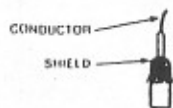

Figure 13
3. If your TV set is connected to an outside antenna, try connecting the FM receiver to the same antenna, using a signal-splitting device designed for this purpose. (Before connecting to an apartment master antenna or community cable system, determine if FM reception is included with the cable signal) See Figure 13.
For best results, connections for external antennas should be made via shielded cable. Shielded 300-ohm cable is available and connects to the 300-ohm terminals at the rear of the receiver. (Disconnect the dipole antenna from those terminals before connecting any external antenna.) In some cases, it will be more convenient to use shielded 75-ohm "coaxial" cable, the type of antenna cable commonly used for master antenna and community cable systems. See Figure 13 for cable connection instructions.